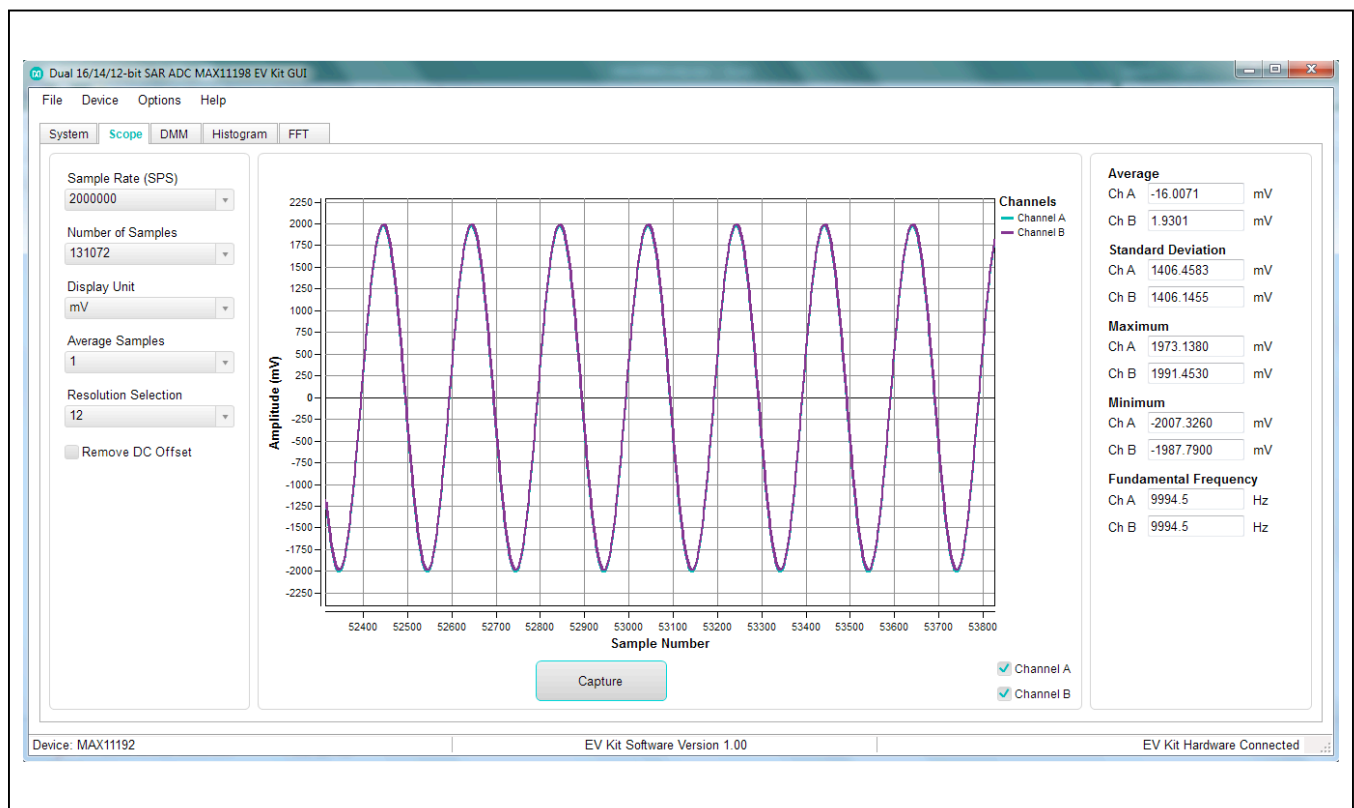

Figure 2. EV Kit Software (ScopeTab)
**of Samples, Display Unit, Average Samples, and Resolution Selection** can be set in this tab if they were not appropriately adjusted in other tabs. The **Display Unit** pull-down list allows counts in LSB and voltages in V, mV, or  $\mu\text{V}$ . Once the desired configuration is set, click on the **Capture** button. The right side of the tab sheet displays details of the waveform, such as average, standard deviation, maximum, minimum, and fundamental frequency for each channel as shown in Figure 2.